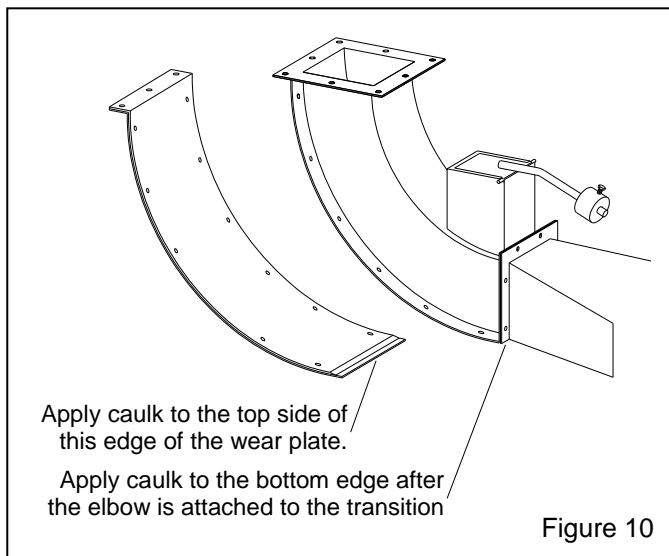

Figure 10
12.3.5 Apply a bead of caulking to the top side of the new wear plate as shown in Figure 10, and install the elbow onto the transition. Apply new gasket material if necessary.